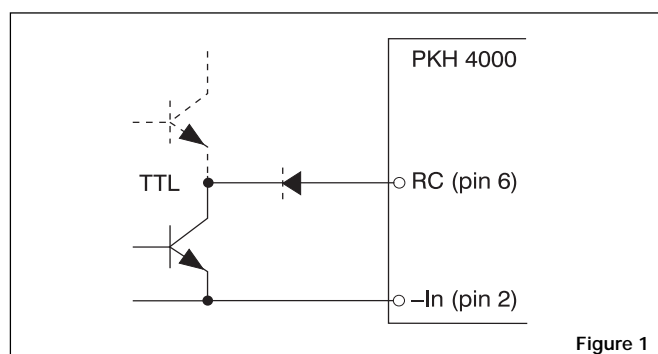

Figure 1
Turn-on or turn-off can be realized by using the optional RC-pin – if an RC function is required, pin 6 shall be added by a certified Ericsson VAR Center. Normal operation is achieved if pin 6 is open (NC). If pin 6 is connected to pin 2 the power module turns off. To ensure safe turn-off the voltage difference between pin 6 and 2 shall be less than 1.0 V. RC is TTL open collector compatible output with a sink capacity >100 µA (see fig. 1).